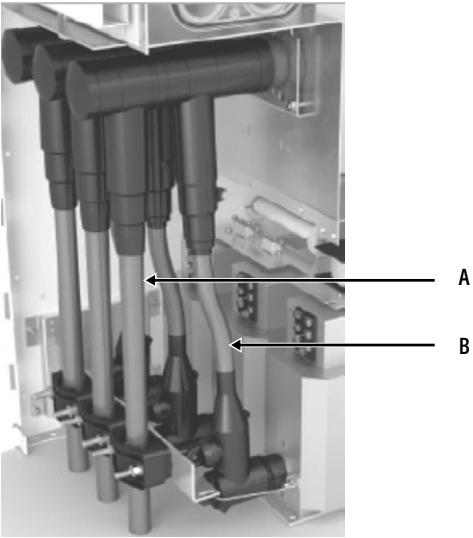

Figure 3-9: Cable connection cone
- 1. VT is connected directly to the cable cone, factory assembled; see figure 3-9.